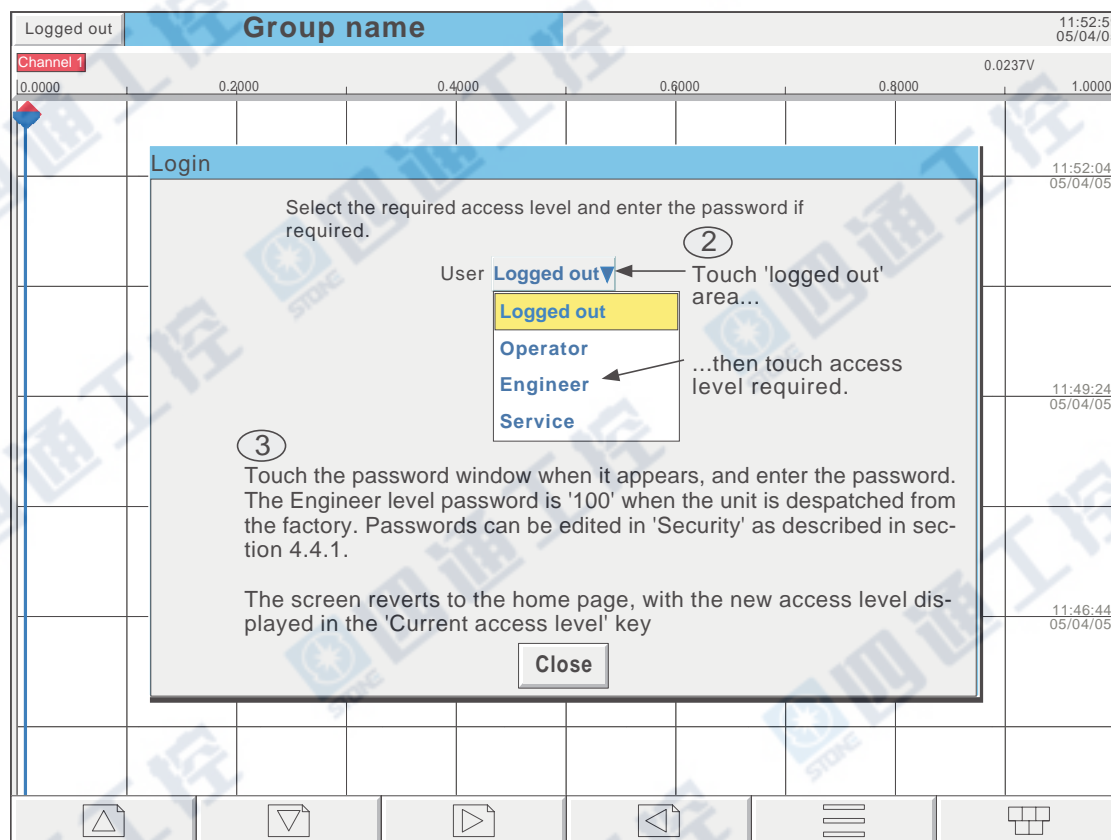

Figure 3.3.1a Access to configuration
- 1 As shown in figure 3.3.1a, once the recorder has initialised, touch the current access level key
3. Figure 3.3.1a shows 'Login by user list' which is the default method. If either Auditor option and/or the Security management option is enabled, an alternative procedure is possible where each user has to enter a name and associated password - i.e. there is no list of users/access levels to choose from. See section 4.4.2 (Management) for details.